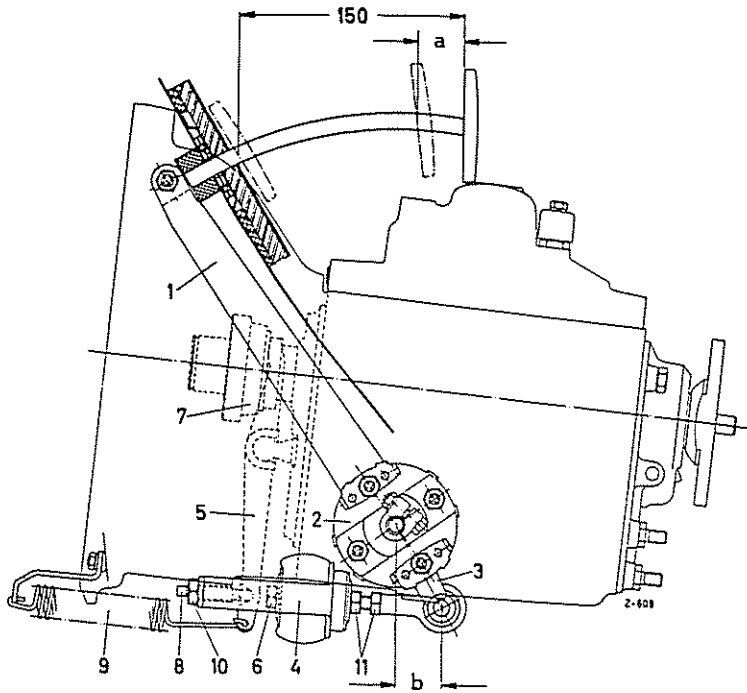

Fig. 29-5/4
10. Install the clutch pedal shaft from the inside on the splines of the flange (8) and tighten the flange with the clamping screw (7) (Fig. 29-5/1).
12. Slide the relay lever (3) on the splines of the pedal shaft and check the position of the relay lever. The distance from center bolt of the relay lever to center clutch pedal shaft should be "b" = 32 ± 4 mm in the case of Models 180, 180 D, and 190 SL and "b" = 29 ± 4 mm in the case of Model 220 a. The clutch pedal (1) should always rest against the rubber stap. The distance "b" can be varied by changing the position of the relay lever (3) on the splines of the clutch pedal shaft (see Fig. 29-5/4).